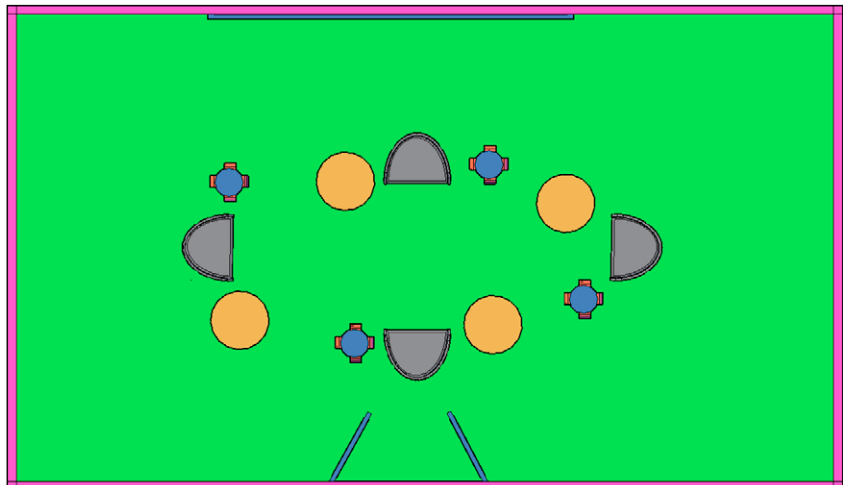

Fig. 15.42 Top view of the furniture inserted, copies and places in position
3. Insert the table, copy it 3 times and move the copies to suitable positions (Fig. 15.42).